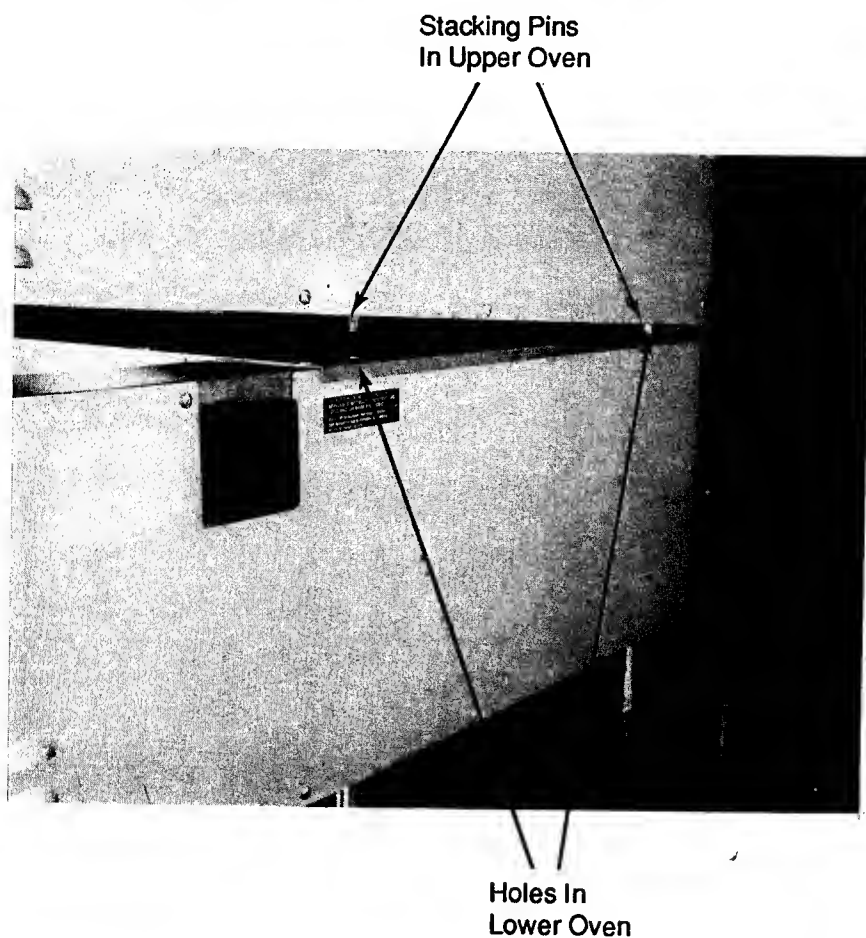

Figure 2-4
2. Unpack the upper oven. Locate the two (2) stacking pins in the kit. Install the two pins into the two bottom rear threaded holes of the upper oven. These are the holes normally used for the rear legs.
3. Using four people lift the upper oven on top of the lower oven. Align the stacking pins as shown in Figure 2-4 with the holes in the top of the lower oven and lower the oven into place.